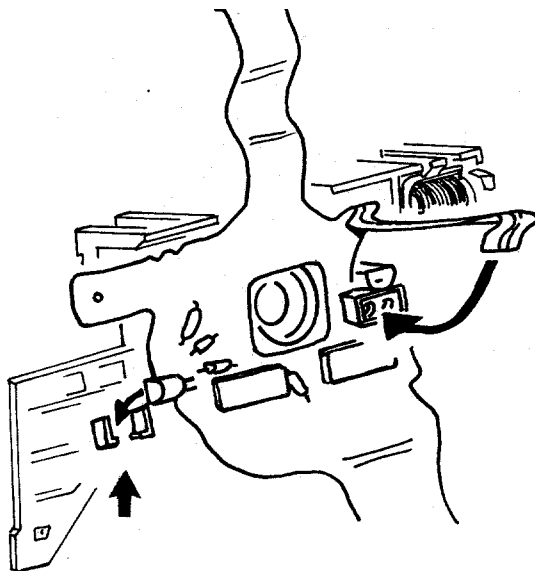

Fig. 28 Replacing the Flex on the Base Block
32. Replace the Flex on the Base Block by first slipping the attached photocell up under its retaining fingers on the Base Block (see Fig. 28). Now bow the Flex slightly, slip it under the Solenoid connector and down into position around the lens opening and guide pin. Fold the Flex leg up and reconnect it to the Solenoid.